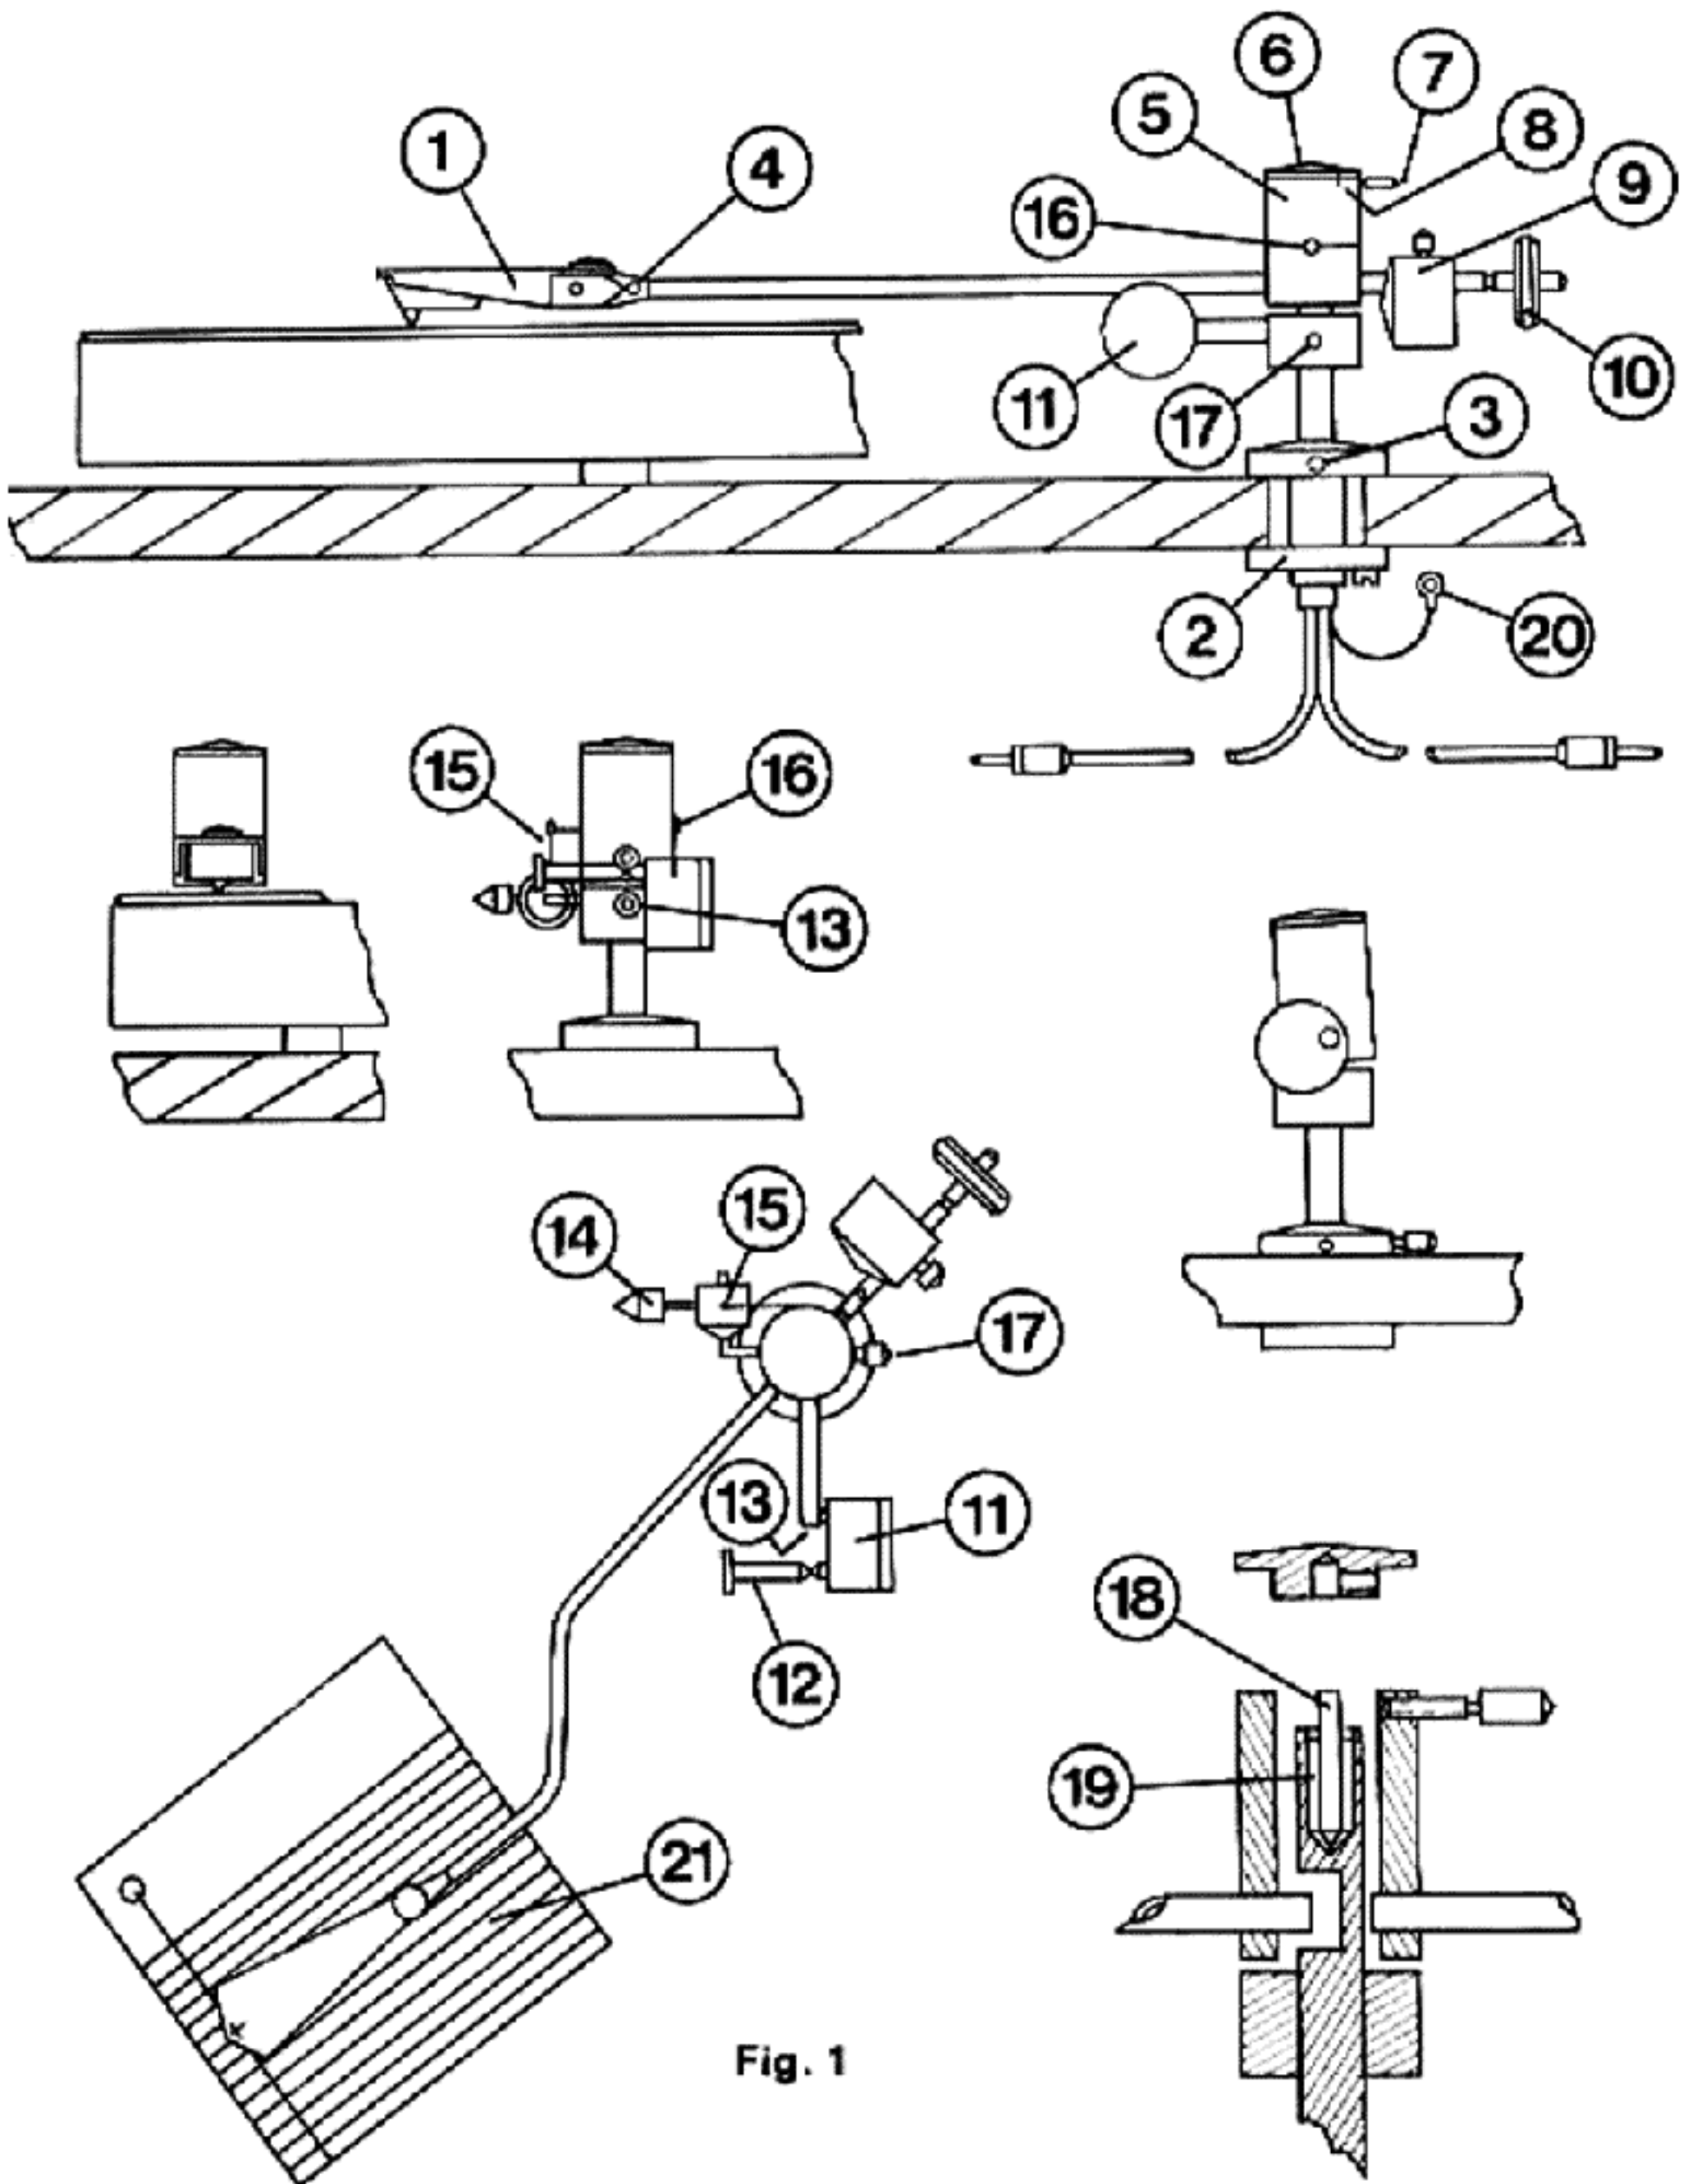

Fig. 1
- 1** Remove the headshell, fig. 1(1) by slackening its knurled retaining nut, supporting the arm with one hand and pulling the headshell off with the other. Fit the cartridge, connecting the terminal wires as marked on the cartridge and underneath the headshell. Refit the headshell to the arm.
- 2** Temporarily fit the platter, fig. 4(1), to its centre spindle, place a record on the platter and fit the template protractor fig. 1 (21), to the centre spindle. With the stylus tip resting on the point marked —O—, the arm should be mounted so as to ensure that the front part of the arm tube and the headshell are parallel to the lines on the protractor. Mark the Fluid Arm mounting hole centre, remembering that although the hole can be in any convenient position around the platter, it must be possible to close the perspex cover without fouling the counterweight overhang.
- 4** Fit the Fluid Arm to the tone arm board. The base nut assembly, fig. 1 (2), should be "finger tight" only.
- 5** Connect the earth tag, fig. 1 (20), to the screw on the lower base nut.
- 2** Place a record on the platter and fit the template protractor, fig. 1(21), to the platter centre spindle. With the stylus tip resting on the point marked —O—, move the Fluid Arm in its fixing hole so as to ensure that the front part of the arm tube and the headshell are parallel to the lines on the protractor. Tighten the base nut, fig. 1(2), "finger tight".
- 3** Slacken the height adjustment screw, fig. 1(3), in the base nut assembly and adjust the height of the arm tube so that it is parallel to the record when playing. Tighten the height adjustment screw.
- 4** Fit the eccentric counterweight, fig. 1(9), on the arm between the helmet, fig. 1(5), and the screwed counterweight fig. 1(10), and then move the counterweight forward or backward to obtain static balance. Rotate the counterweight to obtain lateral balance so that the helmet runs vertically whilst playing.
- 5** Using the TRANSCRIPTOR Stylus Scales (see operating instructions below), adjust the screwed counterweight, fig. 1(10), to obtain the correct tracking weight as stated by the cartridge manufacturer (always use the lowest stated tracking weight).
- 6 Using the template protractor, make a final adjustment for tracking error. Fine adjustment can be made by means of the set screw, fig. 1 (4), at the end of the arm. This screw provides radial and slight longitudinal adjustment and care must be taken to ensure that after any adjustment the top of the headshell is still parallel in both planes with respect to the record, with the helmet, fig. 1 (5), held in a vertical position (i.e. normal playing condition).
- 8 Note the position of the index marks, fig. 1 (8), on the helmet cap, fig. 1 (6), and helmet, fig. 1 (5), remove the helmet cap retaining screw, fig. 1 (7), and then lift out the helmet cap. With the pivot, fig. 1 (18), still in position, fill the fluid well, fig. 1 (19), from the small bottle of fluid to about $\frac{1}{16}$ in. (1.5 mm) below the rim of the well (this is best performed by first warming the bottle in hot water and using an eye-dropper or similar device). Carefully refit the helmet cap, realigning the index marks and refitting the retaining screw. Ensure that the screw passes through the hole in the helmet cap and bears against the top of the pivot.
- 9 Place the Fluid Arm assembly in its normal rest position, with the arm supported in the groove on the lowering handwheel cradle, fig. 1 (12).
- 10 Connect the adjustable bias weight, fig. 1 (14), to the helmet with cotton thread. One end of the thread connects to the split pin, fig. 1 (15), and the other end to the screw, fig. 1 (16), on the side of the helmet. With the arm in the rest position, the bias weight must be horizontal.
With the arm resting in the groove on the lowering handwheel cradle, fig. 1(12), and the lowering handwheel, fig. 1(11), in its raised position, swing the entire assembly around until the desired position on the record is reached. Turn the handwheel in a counter-clockwise direction until a point is reached when it will lower automatically. If required, however, the hydraulic action of the handwheel can be over-ridden and it can be manually rotated instead. Once the stylus is on the record, swing the assembly back towards the front again in order to ensure correct bias compensation.
To lift the stylus off the record, swing the assembly in again and lift the arm on the larger diameter section of the cradle (not in the groove as this may cause a sideways force on the stylus). Once lifted, slide the arm into the cradle groove and swing the entire assembly back to the normal rest position. Positioning damping is provided by means of a knurled screw, fig. 1(17).
The lowering handwheel swings over an arc of approximately 90°. If required, this arc can be reset by adjusting a set screw, fig. 1(13), and moving the handwheel over the desired arc.